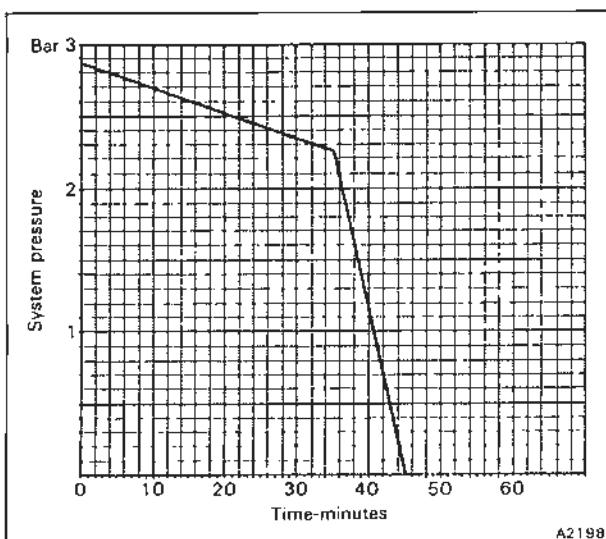

Fig. B4-42 Fuel system 'leak down'
4. Note the time it takes for the pressure to fall to zero and compare this with the graph for fuel system 'leak-down' (see fig. B4-42).